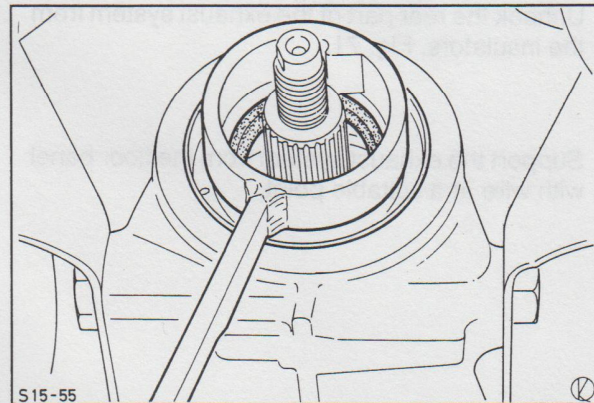

Fig. 75. Remove pinion oil seal.
6. Prise the pinion oil seal out of the rear axle casing using Special Tool 15-072, Fig. 75.